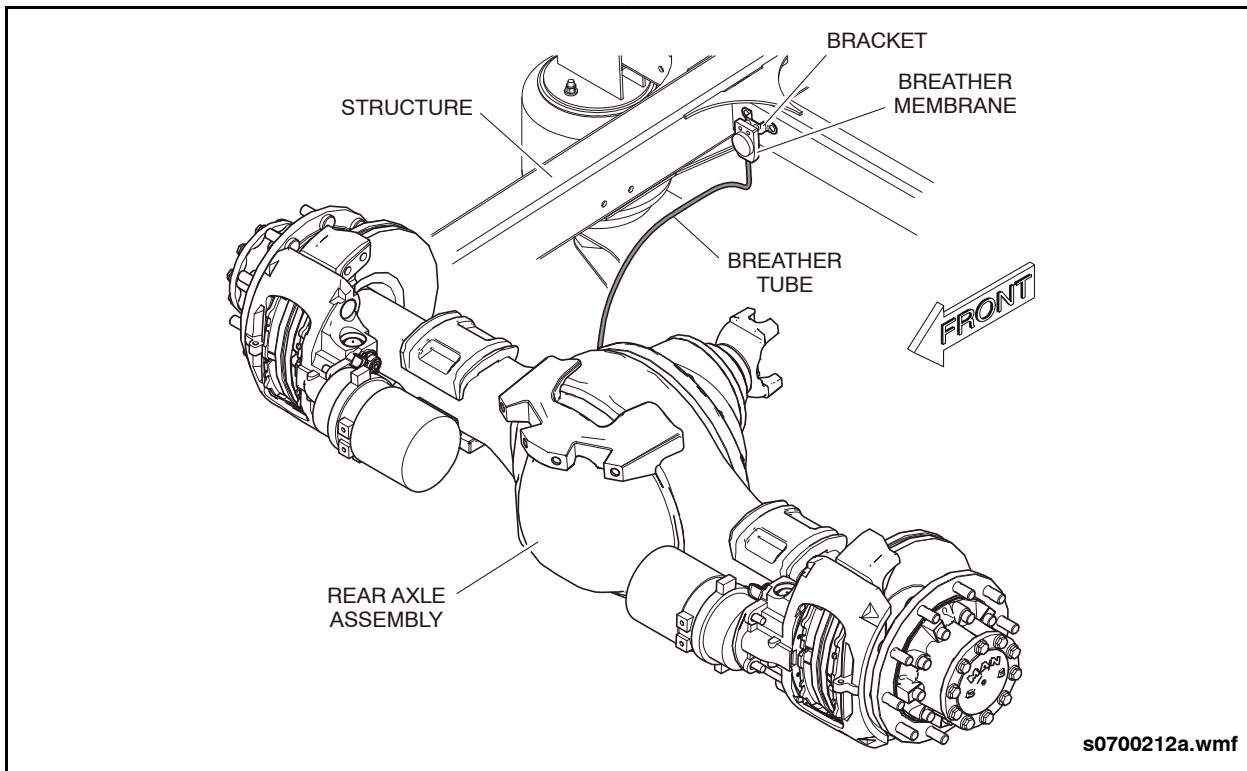

Fig. PM-27: Rear Axle Breather Inspection
- Check that the breather tube is securely attached to the elbow located on top of the differential housing and is attached to the breather membrane, located on the street-side suspension support. See "Fig. PM-27: Rear Axle Breather Inspection" on page 57.